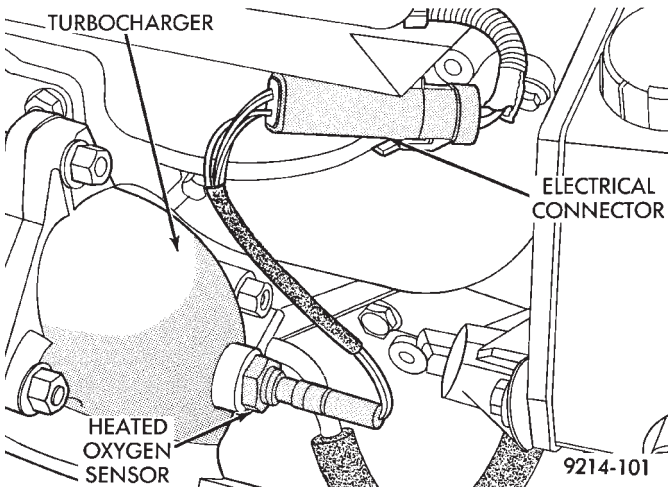
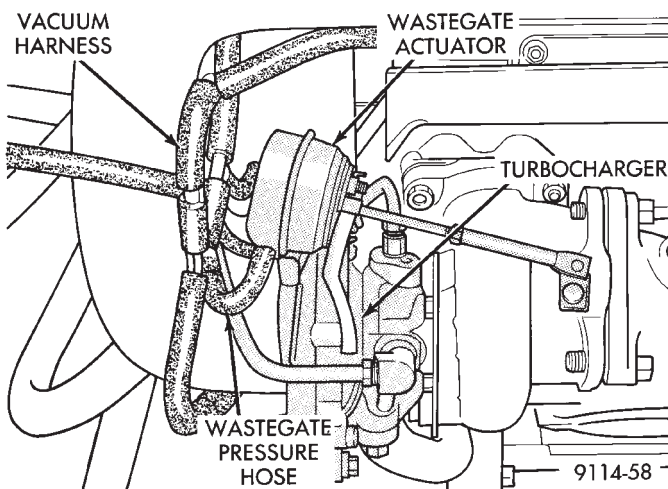

Fig. 18 Heated Oxygen Sensor
Fig. 19 Hose Connections
(26) Inspect the heated oxygen sensor electrical connector (Fig. 18).
(27) Verify engine ground strap is attached to the engine and the dash panel.
(28) Verify the hose connections on the turbo charger are secure (Fig. 19).
(29) Check the turbocharger bypass valve hose connections.